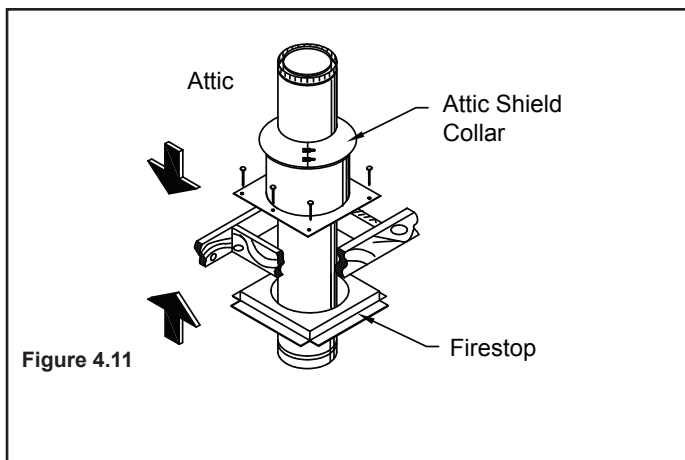

Figure 4.11
- Secure the attic insulation shield to the top of the framed opening using at least two 8-penny nails or two #8, 1-1/2 in. wood screws per side (Figure 4.11).
- Wrap the collar of the attic insulation shield around the chimney and fasten it loosely. Slide the collar down to meet the attic insulation shield. Tighten the bolts to secure the collar in place (Figure 4.11).